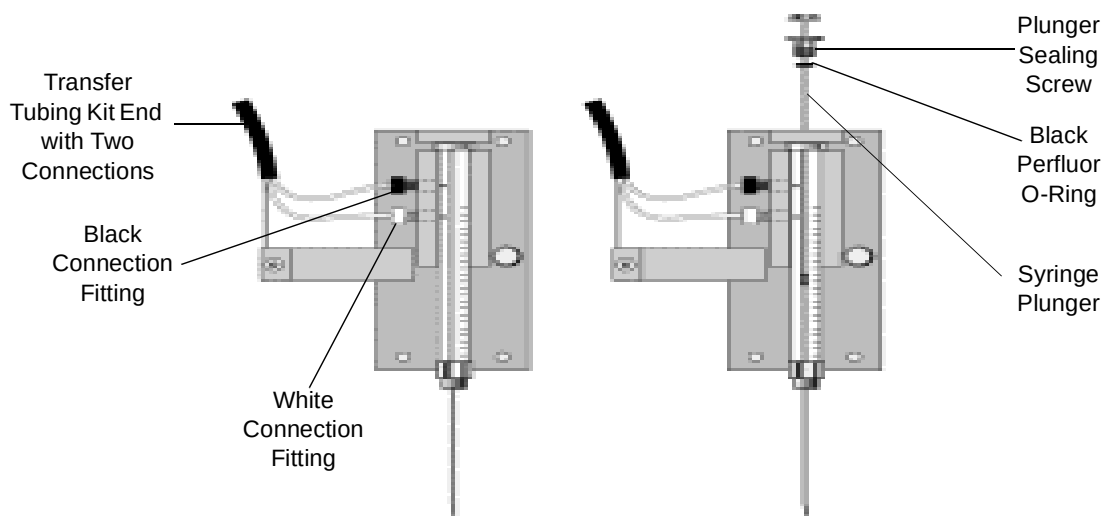

Figure 2-31 Installing the Sideport Syringe
2. Locate the black connection fitting and screw it into the upper connection thread (Figure 2-31).